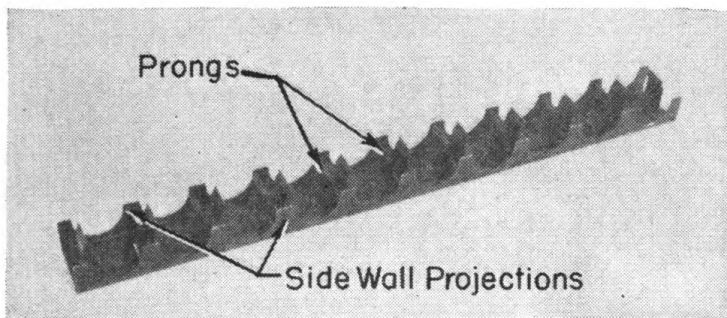

FIGURE 29.—Ammunition clip.
Q. How is the ammunition fed to the gun? A. In ammunition clips holding 10 rounds each. See figure 29.
Q. What is the approximate weight of the projectiles M54 (HE) and M55A1 (practice)? *A.* $11\frac{1}{3}$ pounds.